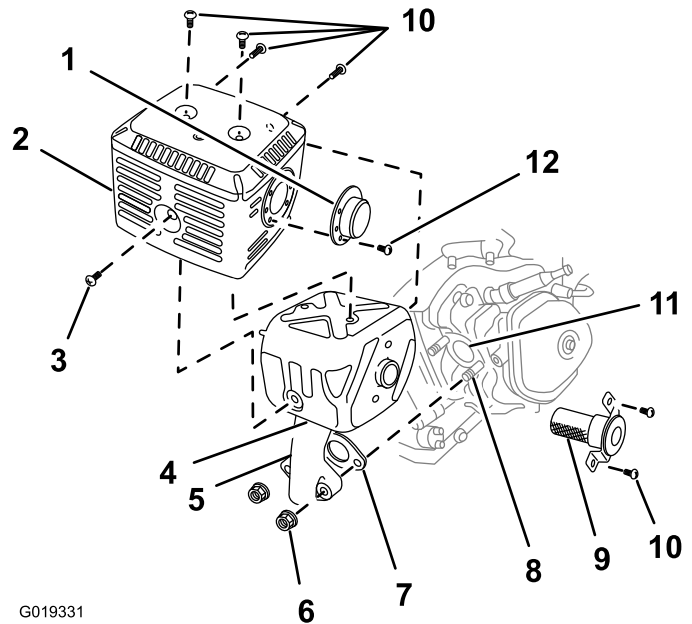

Figure 47
2. Remove the 2 nuts (8 mm) and remove the muffler from the cylinder (Figure 47).
3. Remove the 3 screws (4 mm) from the exhaust deflector and remove the deflector (Figure 47).
4. Remove the screws (5 mm and 6 mm) from the muffler protector, and remove the muffler protector (Figure 47).
5. Remove the screw (4 mm) from the spark arrester and remove the spark arrester from the muffler (Figure 47).